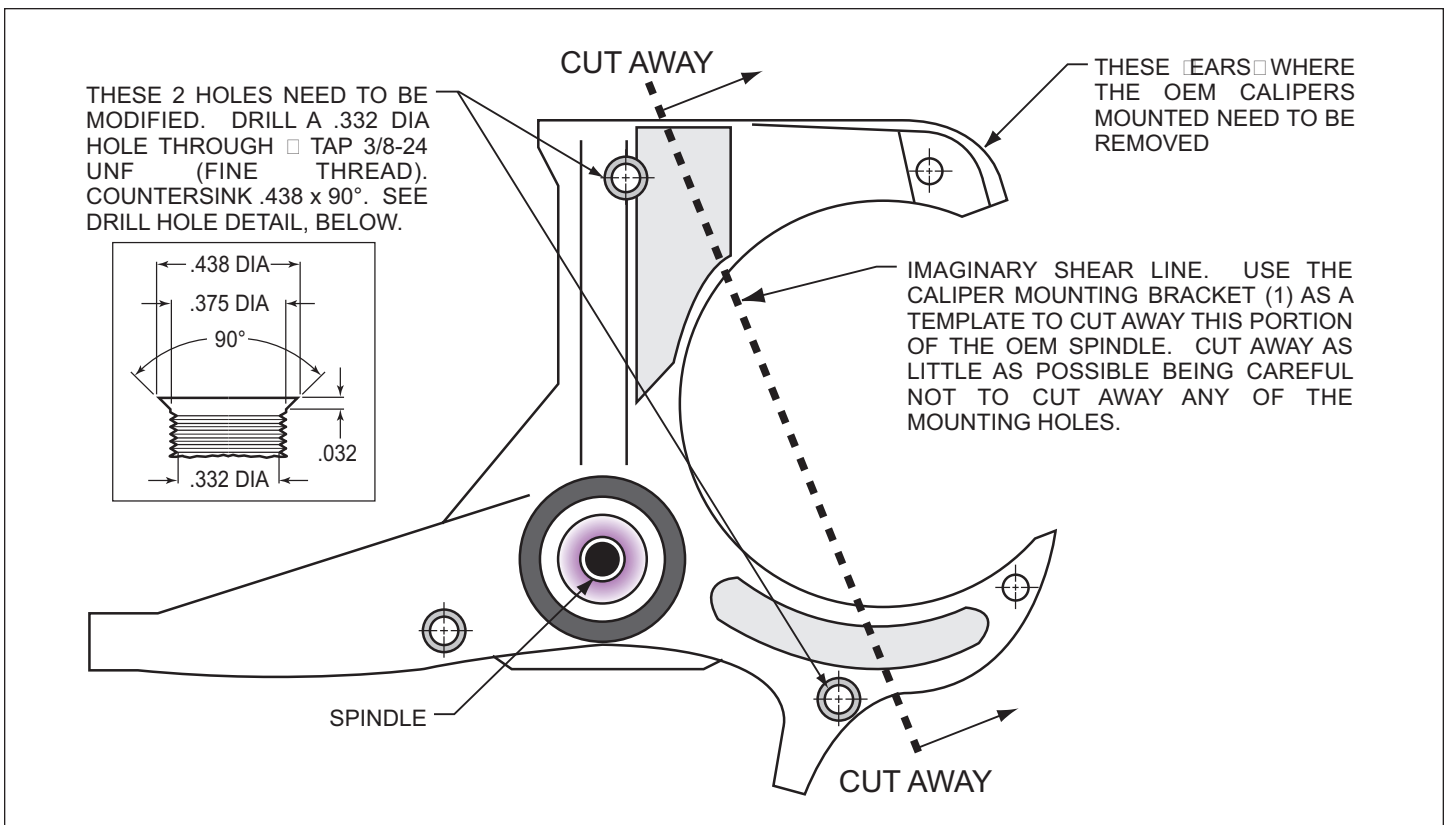
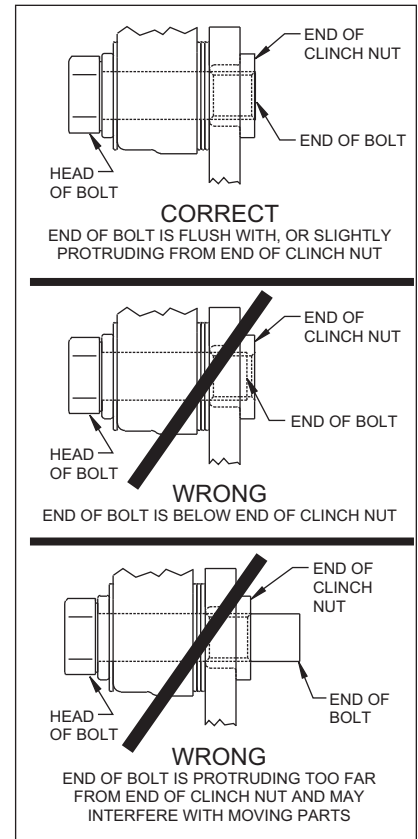

Figure 1. Steering Arm / Spindle Modifications
Figure 4.
These modifications should be performed by a qualified machinist. Refer to Figure 1 as necessary (numbers in parenthesis refer to the parts list). Only one view of the steering arm/spindle is shown, but the modifications need to be performed on both steering arm/spindles.
- Apply red *Loctite*® 271 to bolt threads (2) before assembly of the caliper bracket (1) to backing plate face of spindle. Position the caliper mounting bracket (1) onto the spindle while positioning spacers (3) between bracket and spindle face. Slip the mounting bolts (2) into the threaded spindle holes, finger tighten. Torque two bolts (2) to 30 ft-lb. **NOTE:** Be sure the heads of the caliper bracket (1) insert nuts are facing outward toward the wheel.
- Install five new wheel studs (4) into the hub (5). Torque to 77 ft-lb. **NOTE:** There are two five lug patterns in the hub (5 x 4.50 and 5 x 4.75). Make sure of the correct hole pattern for the correct wheel application before installing studs into hub.
- Pack the large inner bearing cone (6) with high temperature disc brake bearing grease (available from your local auto parts store) and install into the backside of the hub (5).
- Install the grease seal (7) by pressing into the backside of the hub (5).
- Orient the rotor (9) and the rotor adapter (8) as shown in Figure 1. Attach the rotor to the adapter using bolts (10). Using an alternating sequence, apply red *Loctite*® 271 to the threads, and torque to 25 ft-lb.
- Mount the adapter/rotor assembly (8/9) to the hub (5) using bolts (11), as shown in Figure 1. Using an alternating sequence, apply red *Loctite*® 271 to the threads, and torque to 45 ft-lb.
- Pack the small outer bearing cone (12) with high temperature disc brake bearing grease and install into front of hub (5). Slide the hub/rotor assembly (5 and 9) with outer bearing cone (12) onto the spindle. Secure using supplied washer (13), original adjusting nut and nut locking device.
- Install the dust cap (15) onto the hub (5). Friction created by the o-ring (14) on the dust cap (15) keeps it from unscrewing. The O.D. of the existing spindle washer may be larger than the I.D. of the dust cap (15) not allowing it to seat against the hub face. Therefore, use the spindle washer (13) supplied with the kit instead of the stock washer.
- NOTE:** Please reference the caution statement at the beginning of the assembly instructions. This kit contains distinct right and left hand calipers that must be mounted in a specific direction, as described below. Mount the caliper (16) onto the caliper bracket (1) using bolts (18) and washers (17), as shown in Figure 1. Initially place two .032" thick shims (19) on each bolt between the caliper and the bracket. Ensure that the caliper is mounted so the largest pistons are at the rotor exit end of the caliper, in relation to the direction of rotor rotation. Temporarily tighten the mounting bolts and view the rotor (9) through the top opening of the caliper. The rotor should be centered in the caliper. If not, adjust by adding or subtracting shims (19) between the bracket and the caliper. Always use the same amount of shims on each of the two mounting bolts. **NOTE:** The end of the bolt must be flush with or slightly protruding from the head of the clinch nut in the bracket. If necessary, place spare shims between the washer and the caliper mounting ear to achieve the proper clinch nut engagement, as shown in Figure 4. Always use the same amount of shims on both the top and bottom caliper mounting bolts. Once the caliper alignment and clinch nut engagement are correct, remove the mounting bolts and caliper.
- Remove the two pad retaining pins from the caliper (16) by carefully popping out the pin retaining clips and sliding out the pins. Insert the brake pads (20) into the caliper from the bottom, Figure 1, with the friction material facing the rotor. Secure the brake pads in place with the pad retaining pins and clips. Reinstall the caliper onto the caliper mounting bracket. Apply red *Loctite*® 271 to bolt threads (18), and torque to 40 ft-lb.